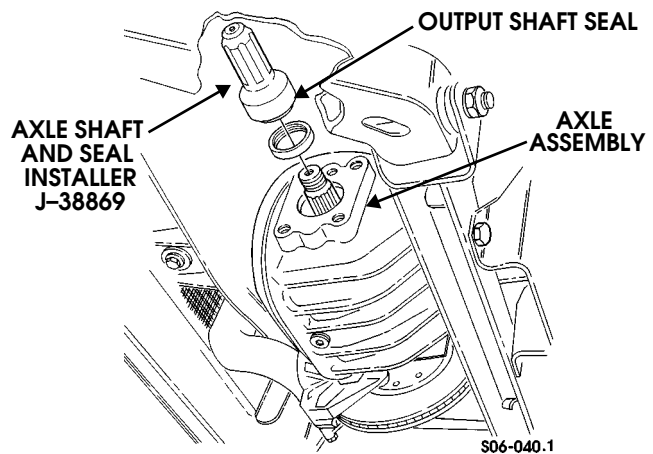

Figure 9-52: Axle Output Shaft Seal Replacement
6. Remove output shaft seal from axle (Figure 9-52).
1. Using seal installer J-38869, install output shaft seal in axle assembly (Figure 9-52).